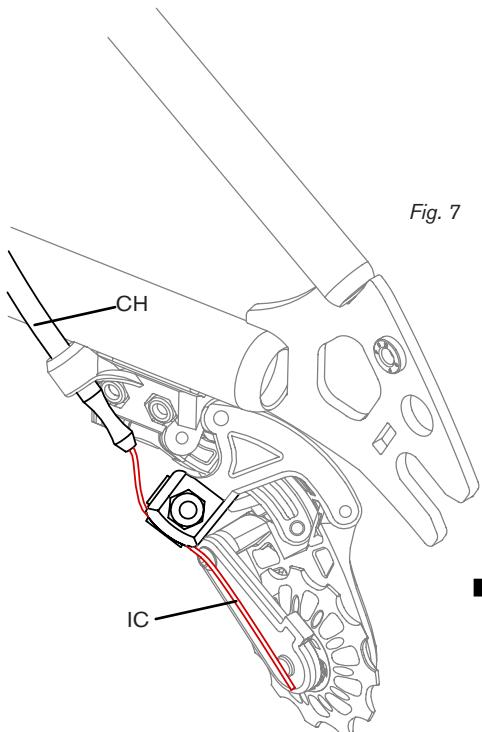
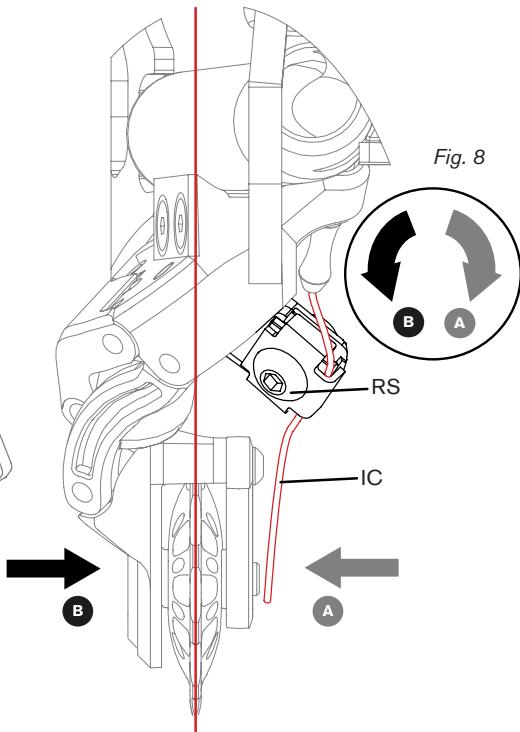
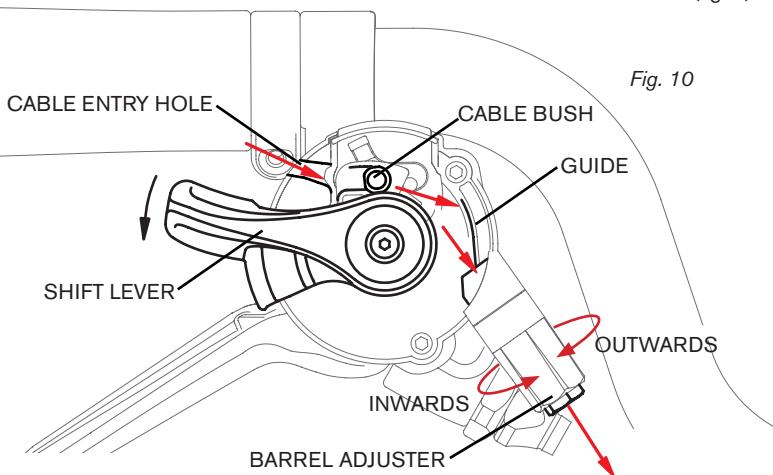

Fig. 7
Fig. 8
Fig. 10
To add tension lost due to cable stretch, place the bike in a stand. Unscrew the barrel adjuster (fig. 10) outwards a quarter turn at a time, each time pedalling the bike whilst listening for the reduction of noise. A visual check can also be done to insure that the jockey wheel on the derailleuer is aligned with the selected sprocket on the cassette. If the bike is failing to reach the largest sprocket this means that too much tension has been added, screw the barrel adjuster inwards to remedy this issue (fig. 10). If this doesn't fix the original issue, change to the smallest sprocket on the cassette, then loosen the bolt holding the cable in place on the inside of the derailleuer (fig. 7, 8). Use a small pliers to pull the inner cable IC end to increase the cable tension and then tighten the bolt RS (fig. 8).
LS-1 is used to create alignment on the largest sprocket on the cassette. LS-2 for the smallest (fig. 8).
- Tighten the bolt that holds the cable in place on the inside of the derailleur (fig. 8)
- Use the barrel adjuster on the shifter to make adjustments to the cable tension as needed (fig. 10)
- Unscrewing the adjuster will add more tension to the cable and improve shifting into the lower gear (fig. 10)
- The jockey wheel on the derailleuer needs to be in-line with the selected gear sprocket on the cassette (fig. 10).